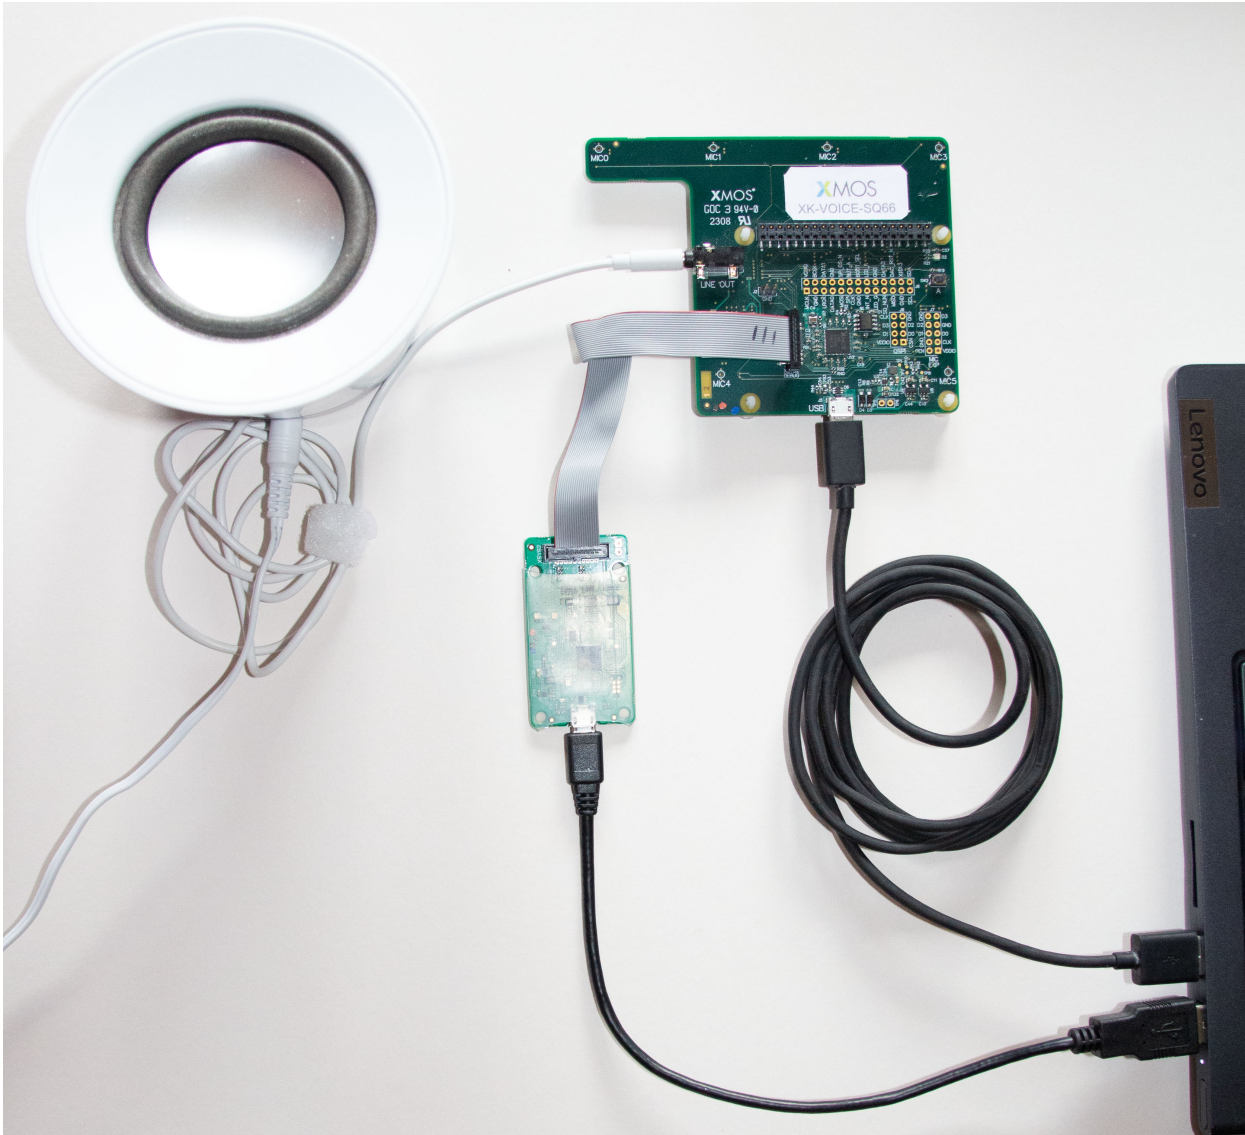

Fig. 2.1: XK-VOICE-SQ66 development kit in UA configuration
3. Connect an XTAG-4 debug adapter to the setup computer via USB, and connect it to the XK-VOICE-SQ66 development kit using the supplied ribbon cable. The cable should be plugged into XSYS2 connector on the XK-VOICE-SQ66 development kit. Fig. 2.1 shows the UA configuration of the XK-VOICE-SQ66 development kit.